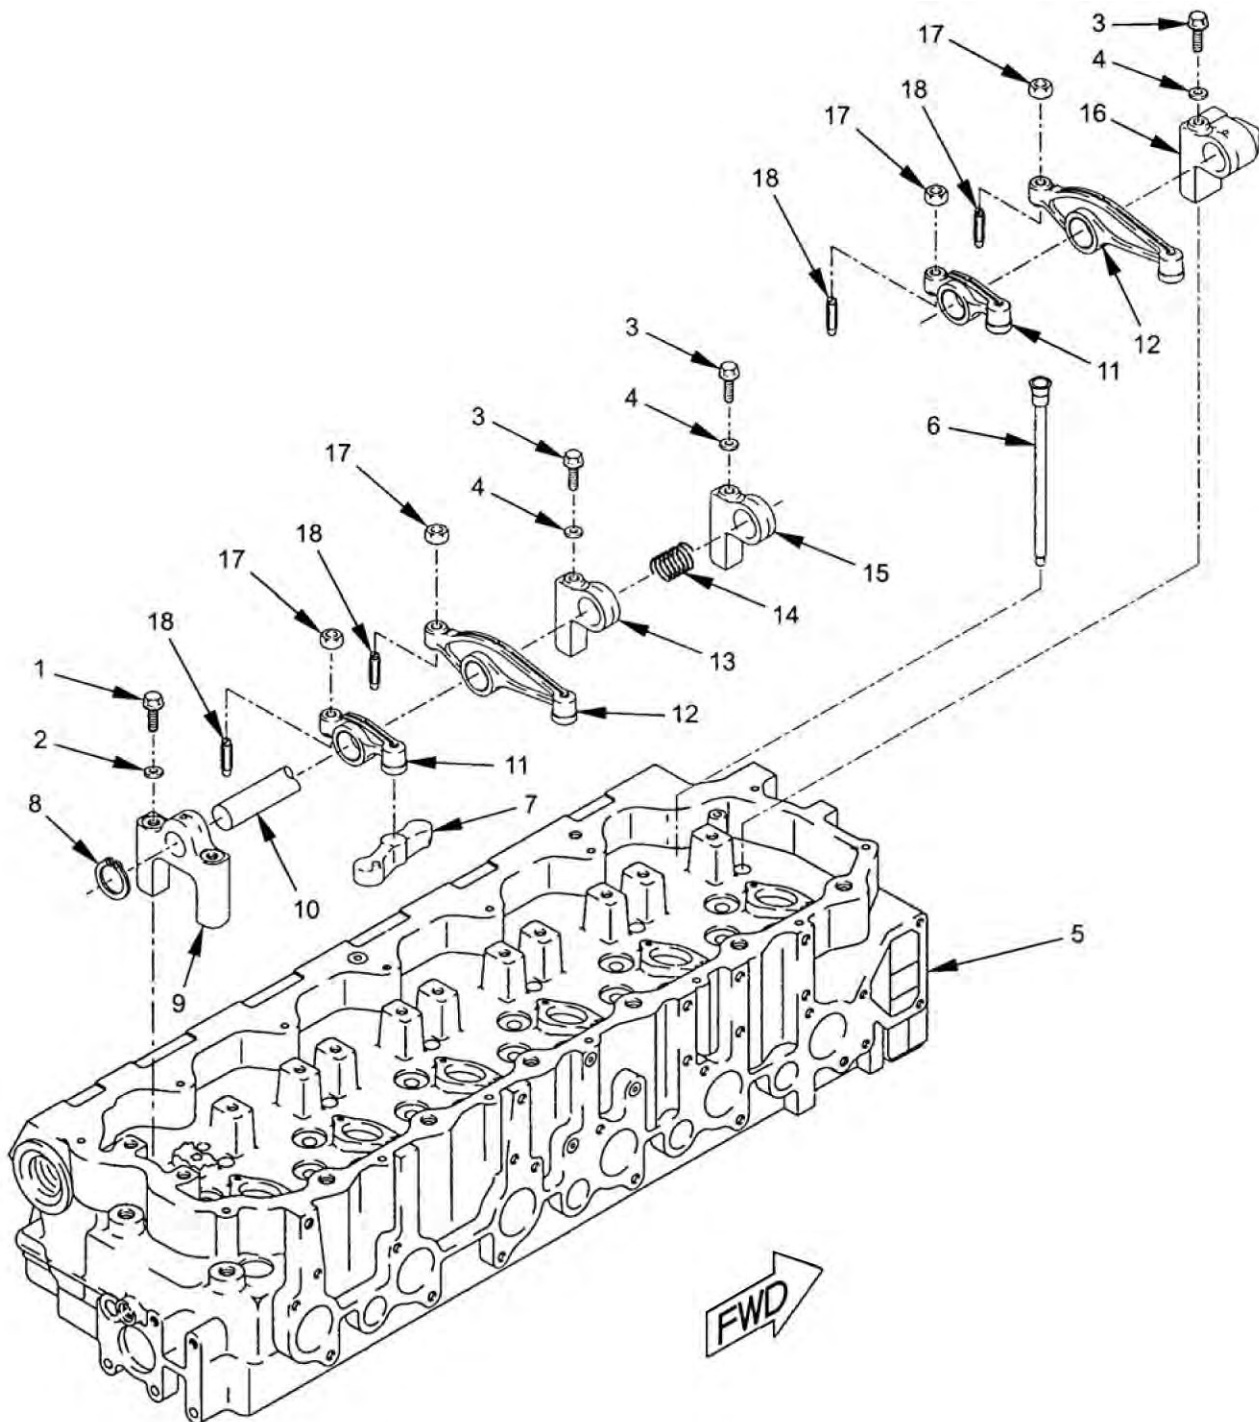

Figure 1. Rocker Shaft and Pushrods Removal and Installation.
1. Remove two bolts (Figure 1, Item 1) and washers (Figure 1, Item 2) from rocker shaft assembly.
2. Remove 11 bolts (Figure 1, Item 3), washers (Figure 1, Item 4), and entire rocker shaft assembly from cylinder head (Figure 1, Item 5).
3. Remove 12 pushrods (Figure 1, Item 6) from cylinder head (Figure 1, Item 5).
4. Remove six inlet valve bridges (Figure 1, Item 7) from cylinder head (Figure 1, Item 5).
1. At rear end of rocker shaft assembly, remove retaining ring (Figure 1, Item 8) and stand (Figure 1, Item 9) from rocker shaft (Figure 1, Item 10).
2. Remove inlet rocker arm (Figure 1, Item 11), exhaust rocker arm (Figure 1, Item 12), stand (Figure 1, Item 13), spring (Figure 1, Item 14), and stand (Figure 1, Item 15).
3. At front end of rocker shaft assembly, remove inlet rocker arm (Figure 1, Item 11), exhaust rocker arm (Figure 1, Item 12), and stand (Figure 1, Item 16).
4. Remove 12 nuts (Figure 1, Item 17) and adjustment screws (Figure 1, Item 18) from six inlet rocker arms (Figure 1, Item 11) and six exhaust rocker arms (Figure 1, Item 12).
1. Install 12 adjusting screws (Figure 1, Item 18) and nuts (Figure 1, Item 17) on six exhaust rocker arms (Figure 1, Item 12) and six inlet rocker arms (Figure 1, Item 11).
2. At front end of rocker shaft assembly, install stand (Figure 1, Item 16), exhaust rocker arm (Figure 1, Item 12), and inlet rocker arm (Figure 1, Item 11).
3. Install stand (Figure 1, Item 15), spring (Figure 1, Item 14), stand (Figure 1, Item 13), exhaust rocker arm (Figure 1, Item 12), and inlet rocker arm (Figure 1, Item 11). Repeat for next four sets of rocker arms.
4. At rear end of rocker shaft assembly, install stand (Figure 1, Item 9) and retaining ring (Figure 1, Item 8).
1. Install six inlet valve bridges (Figure 1, Item 7) on cylinder head (Figure 1, Item 5).
2. Install 12 pushrods (Figure 1, Item 6) in cylinder head (Figure 1, Item 5).
3. Position entire rocker shaft assembly on cylinder head (Figure 1, Item 5) and install 11 washers (Figure 1, Item 4) and bolts (Figure 1, Item 3).
4. Install two washers (Figure 1, Item 2) and bolts (Figure 1, Item 1) on stand (Figure 1, Item 9).